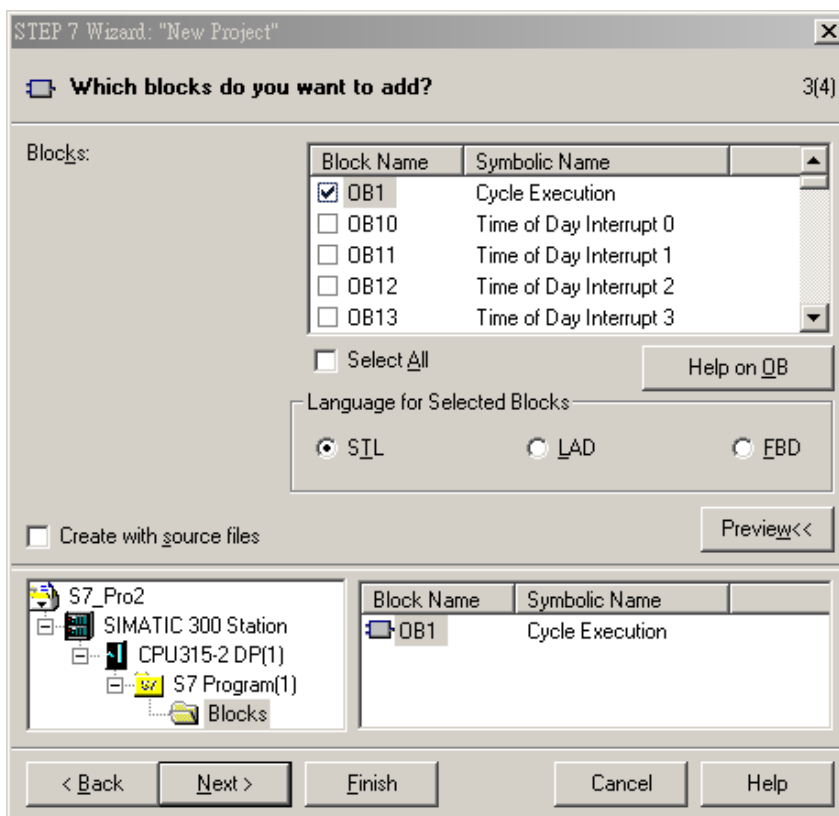

Figure 7-6
5. Select the block and language we need and click "Next". See Figure 7-6.